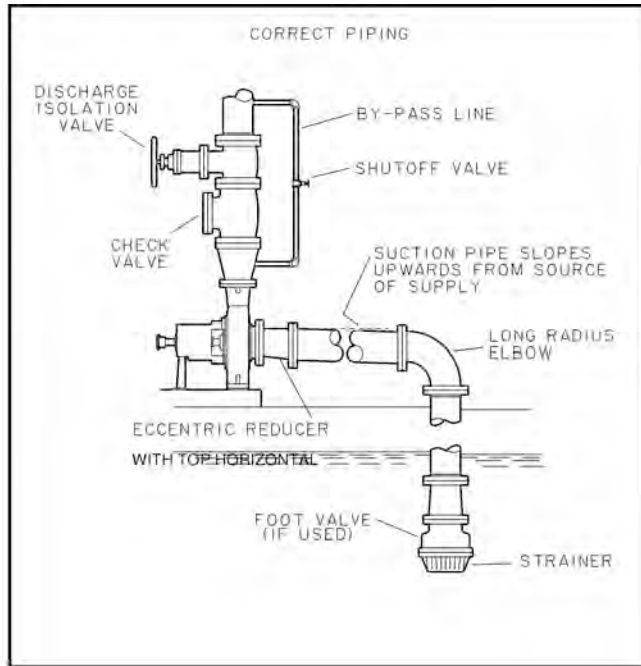

Figure 16:
3. Reducers should be eccentric at the pump suction flange with sloping side down and horizontal side at the top (Fig. 16, 17, 18).